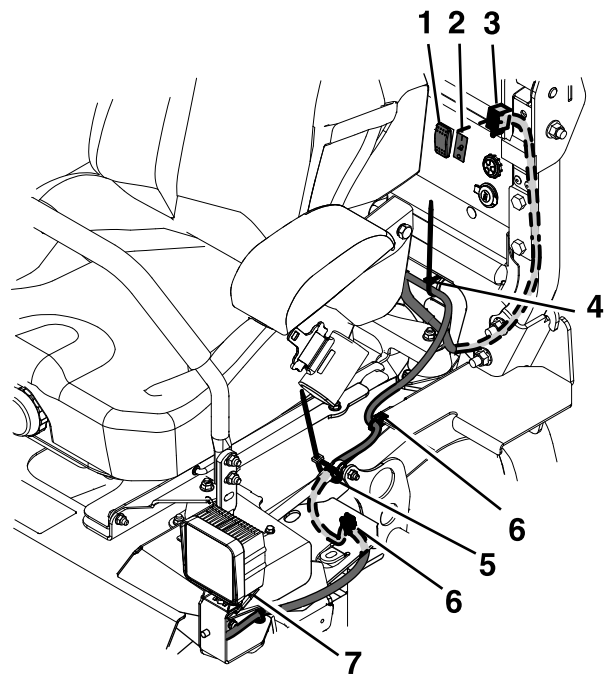

Figure 4
8. Route the left side of the harness under the main frame channel and connect it to the left light as shown in Figure 4.